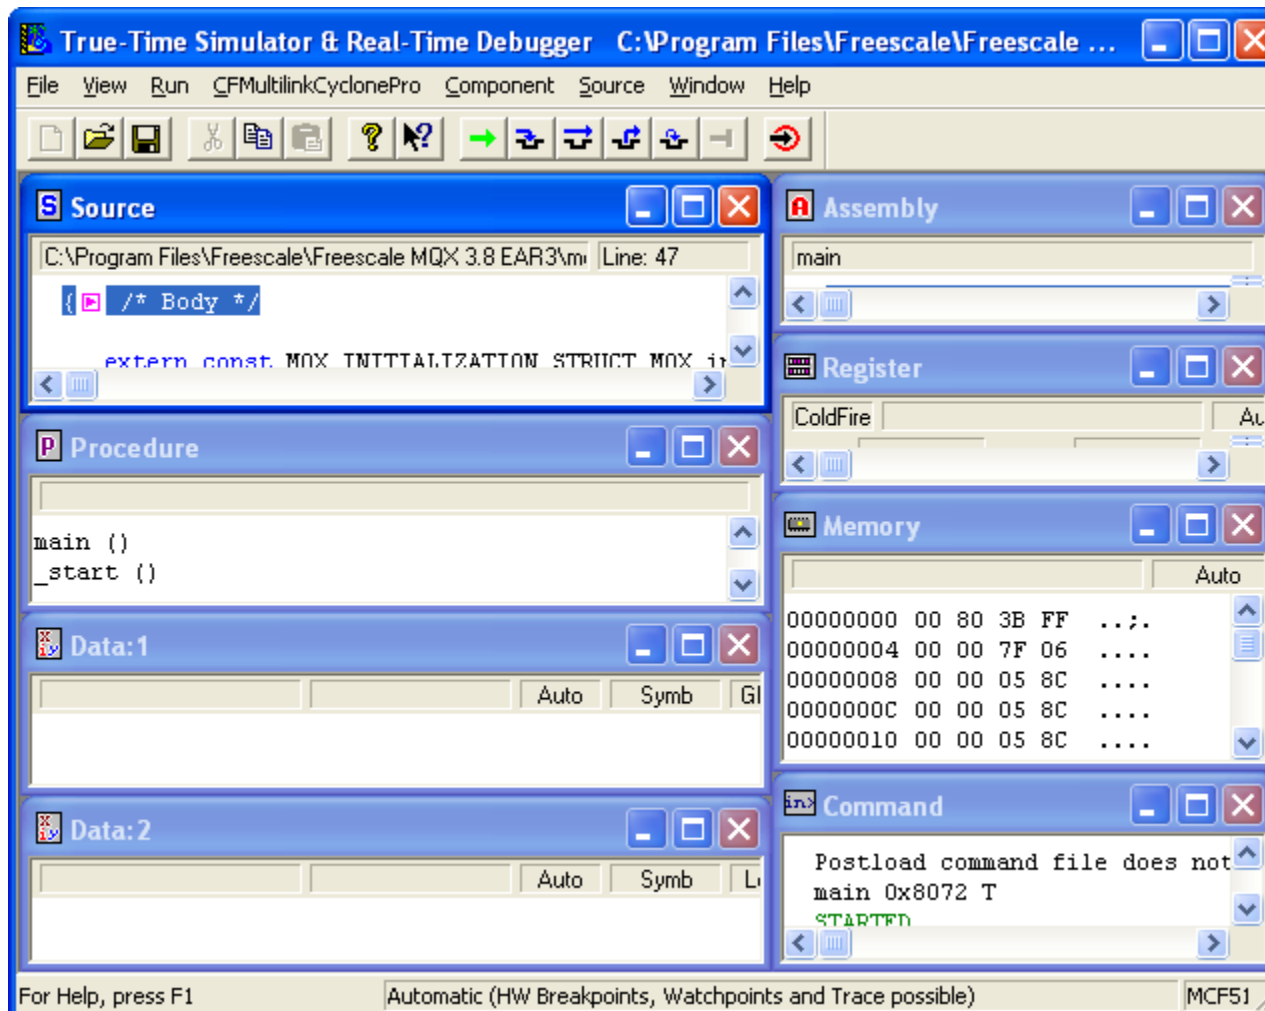

Figure A-8. Simulation and Realtime Debugger
- After the built image is loaded in the flash, the debugger window as shown in Figure A-8 appears. Click on Green Arrow as shown in Figure A-8 to run the programmed image.